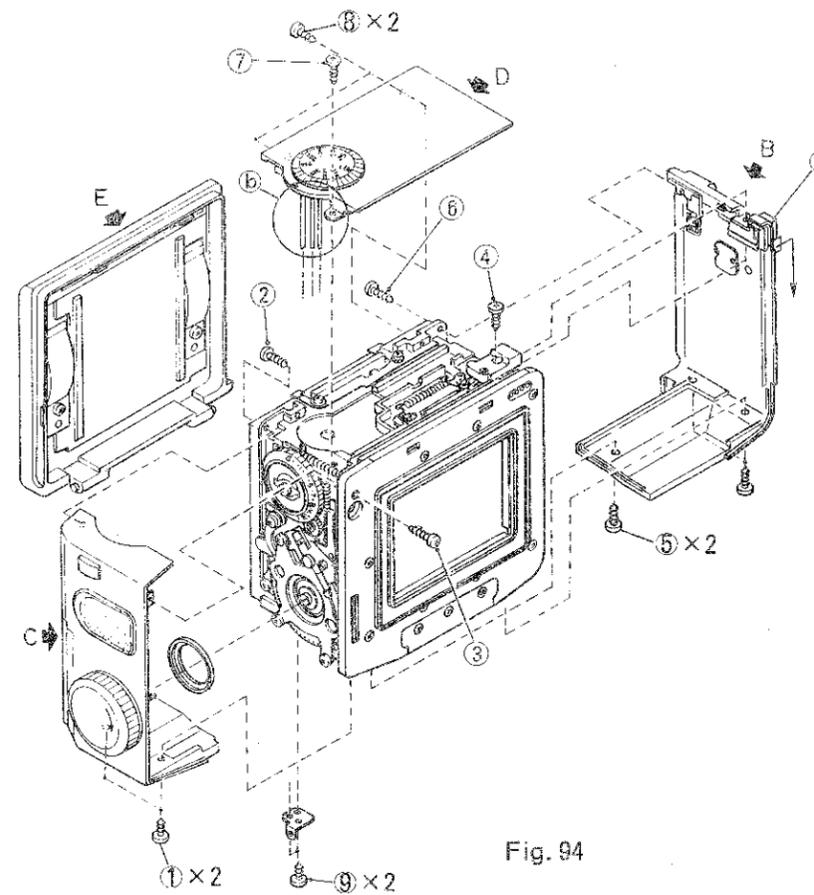

Fig. 94
Disassemble F. holder in the numerical order as illustrated in Fig. 94 below.
- I. Hold the F6 gear (d) with left hand. (Fig. 94)